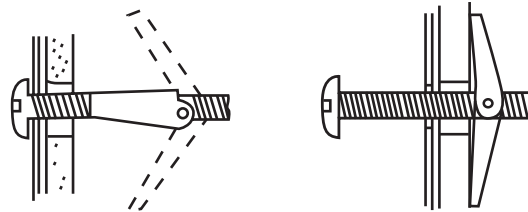

Fig.3-4
- 4-1 Unscrew toggle bolts and insert through the bracket, then insert the bolts through the dry wall. (Fig. 3-4)